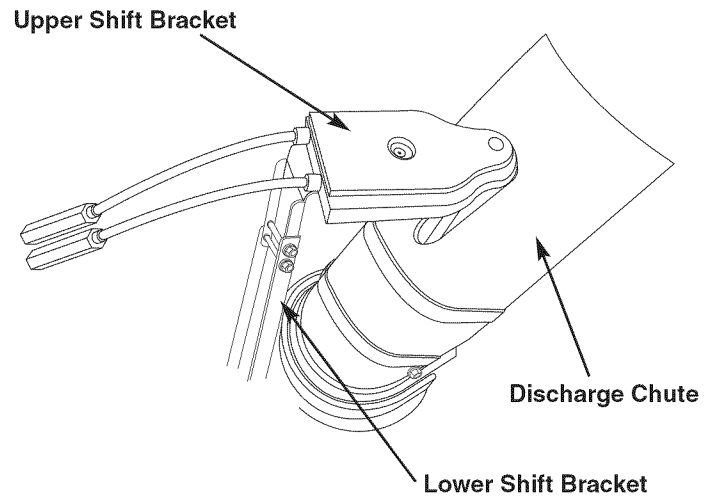

Figure 4
3. Secure the Upper and Lower Shift Bracket with the two (2) nuts and bolts.
4. Tighten the nuts. (see Fig. 4)